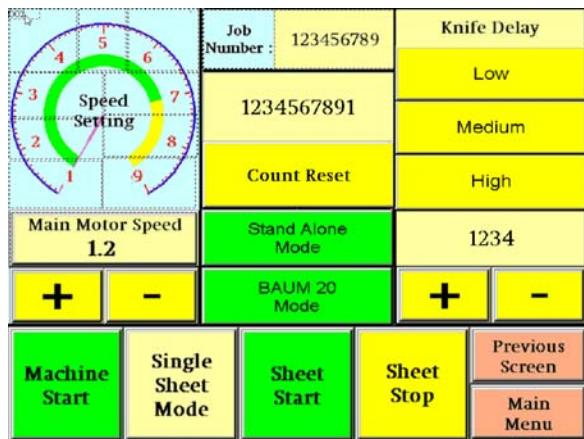

Figure 8
2. There are three ways to change the speed. The easiest way is to press the tachometer display on the upper left of the home or production screen. See figure 8. The speed will change to the numeric value that was pressed. The speed of the main folder drive can
1. To access one of the **job control** screens start from the **home** screen (figure 8) and press the **main menu** button in the lower right corner.
1. From the **Home screen** (figure 8) press the **Main Menu** button in the lower right corner.
1. From the **Home screen** (figure 8) press the **main screen** icon in the lower right corner to access the main screen.
1. To access the PLC I/O, start at the **home** screen (figure 8) and press the **main screen** button in the lower right corner.